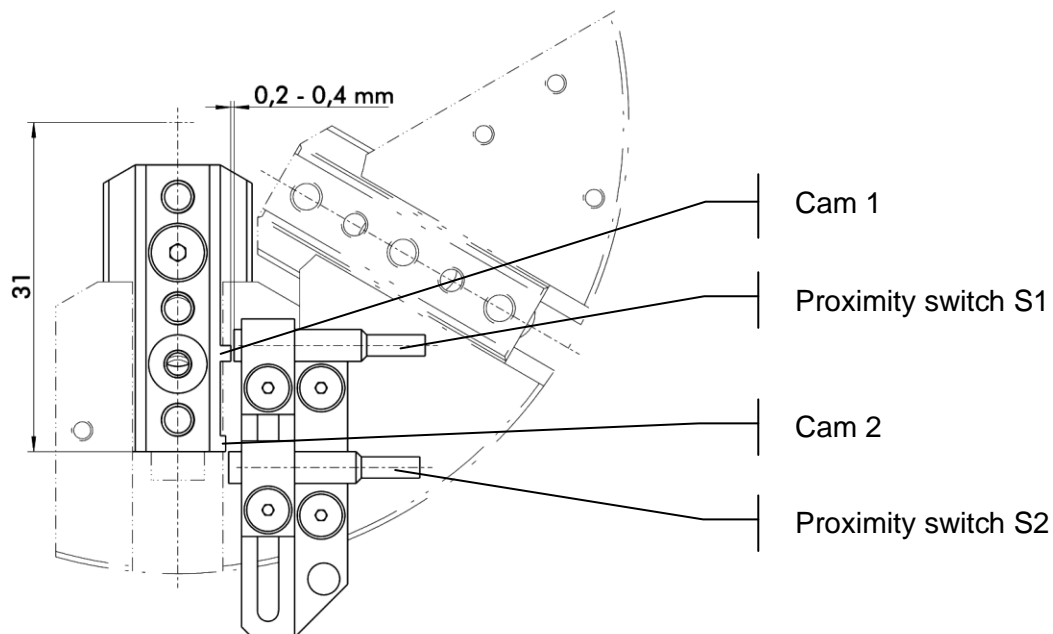

Figure 54: Step 1.0 Setting of proximity switch
- Proximity switch S1 only monitors the position "gripper closed". It must therefore be set so that it is dampened by cam 1 (1 mm high) when in the "gripper closed" position (see Figure 54).
- Proximity switch S2 monitors the position gripper open. It must be set so that it is not dampened by cam 2 (0.5 mm high) when in the "gripper closed" position (Figure 54).